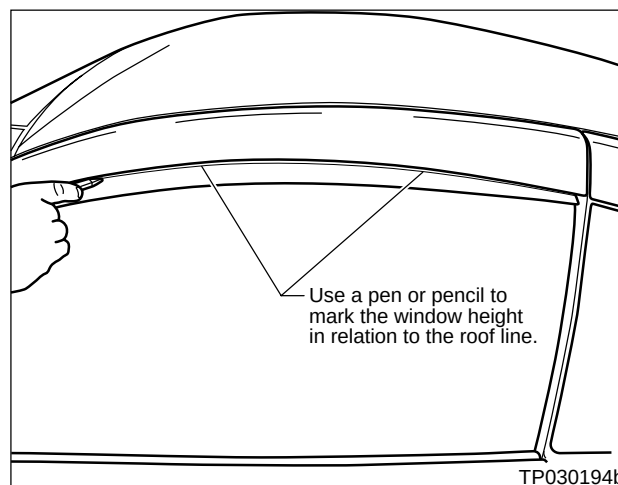

Figure 3
- c. Using the lower edge of the roof line as a guide: Mark the window position with a pen (see Figure 3).
- Using the location marked in step c (Figure 3): Adjust the window to its original position, then tighten it in place.